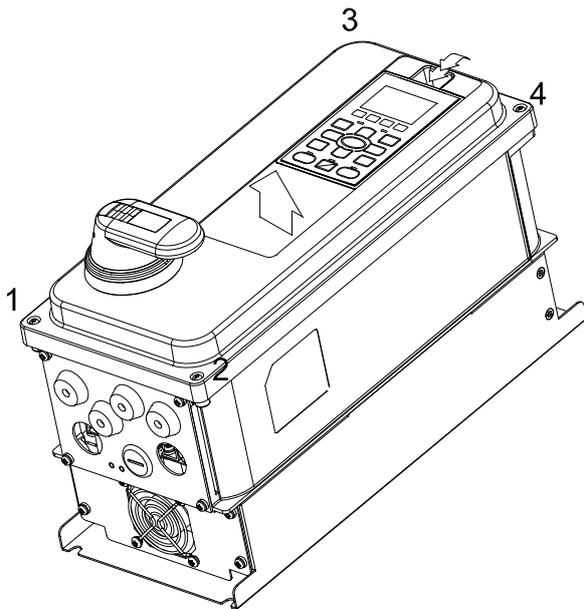

Figure 2
1. Press the hook in the top of digital keypad, then rotate to remove the digital keypad. (Refer to Figure 2)